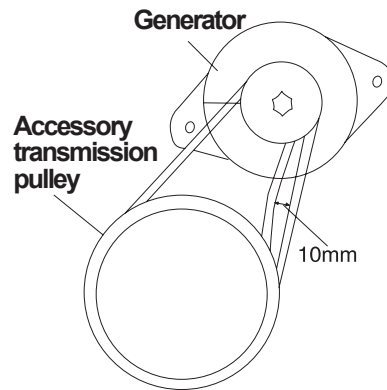

Figure 4-19
- The standard is that when you use a force of about 60N to press the belt in the direction shown by the arrow in Figure 4-19, you can press it down by 10mm, or adjustment should be made. You should also check the belt for damage. When the belt is extended and cannot be adjusted any more, or when there are cuts and cracks, replace the belt immediately. The two belts should be replaced. After the new belts are installed, test run them for one hour before check and adjusting. The V-shaped belt is not allowed to contact the V-groove's bottom.